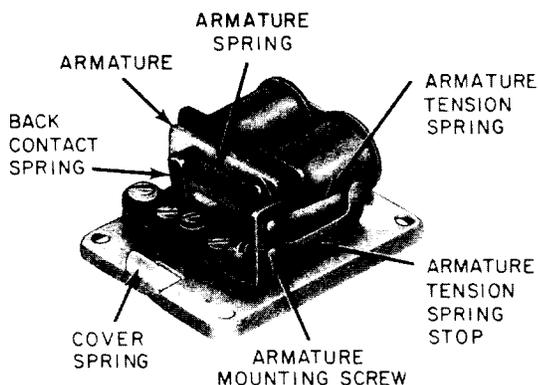
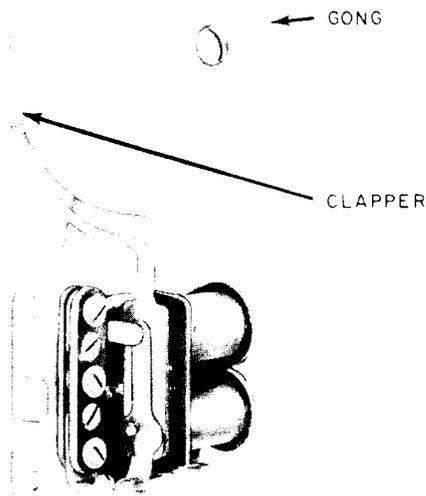

Fig. 1—7F Buzzer
Fig. 2—7-Type Bell
2.04 The 7F buzzer (A&M Only) (Fig. 1) and the 7-type bell (Fig. 2) have the same design features except the bell is equipped with a clapper and 3-inch gong.
**2.07** The gong of the 7-type bell (Fig. 2) has its mounting hole drilled off-center. The eccentricity of the mounted gong provides for adjustment of the bell's volume by rotating the gong to increase or decrease the travel distance between the clapper and the gong.
- (e) The 7F buzzer (Fig. 1) may be mounted in any position. A preferable position for mounting on vertical surfaces is with armature hanging vertically from hinged end to reduce amount of dust settling on contacts.